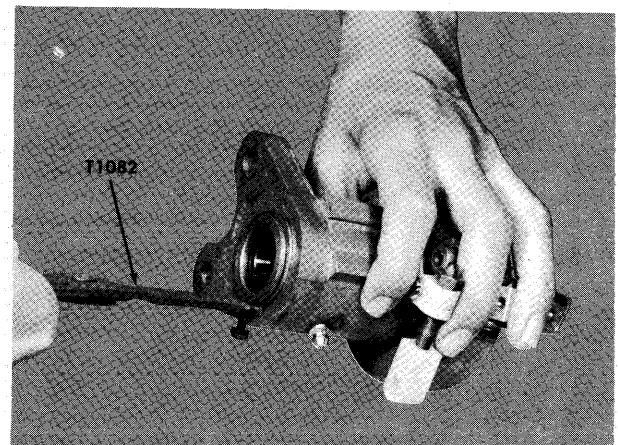

Figure 7 - Removing Retaining Ring
- D. Remove retaining ring using retaining ring pliers (Special Tool T1082) as shown in figure 7, and slide distributor bracket and thrust washer off distributor housing.